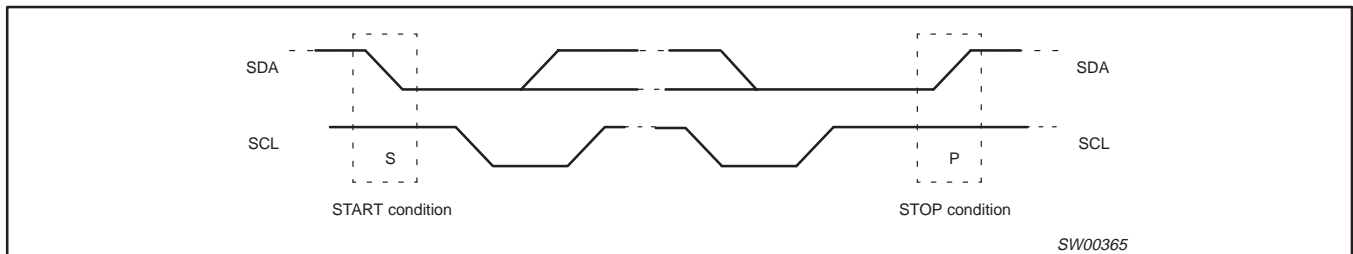

Figure 4. Definition of start and stop conditions
Both data and clock lines remain HIGH when the bus is not busy. A HIGH-to-LOW transition of the data line, while the clock is HIGH is defined as the start condition (S). A LOW-to-HIGH transition of the data line while the clock is HIGH is defined as the stop condition (P) (see Figure 4).